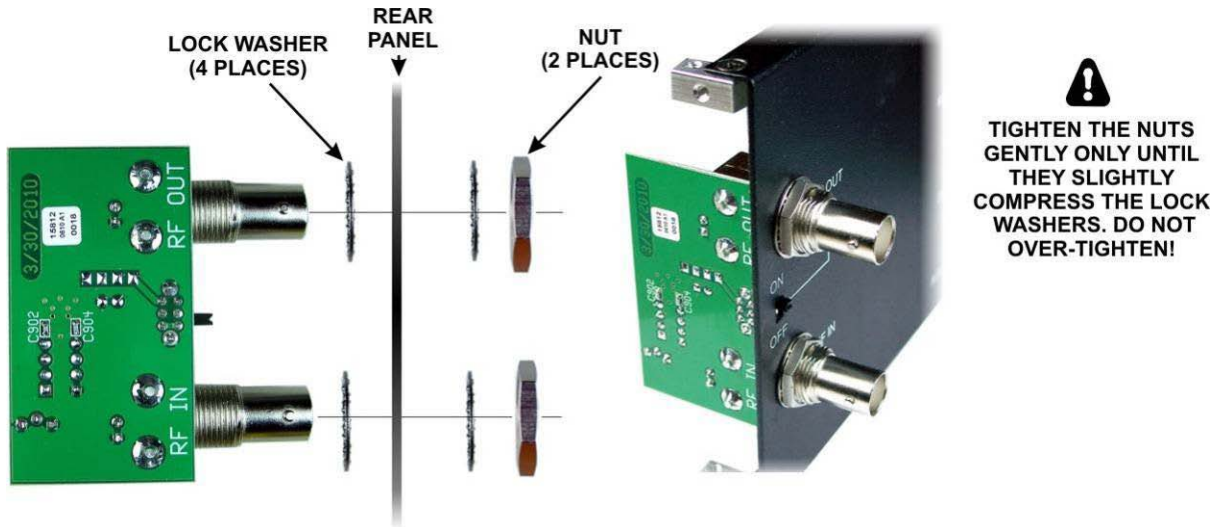

Figure 19. RF Board Installation.
- Mount the board on the rear panel as shown in Figure 19. Be sure two lock washers are between the BNC connectors and the inside surface of the rear panel and two lock washers are between the nuts and the rear panel as shown. **Tighten the nuts gently until they slightly compress the lock washers. That will hold the assembly securely in place. Over-tightening may place unnecessary strain on the RF board.**